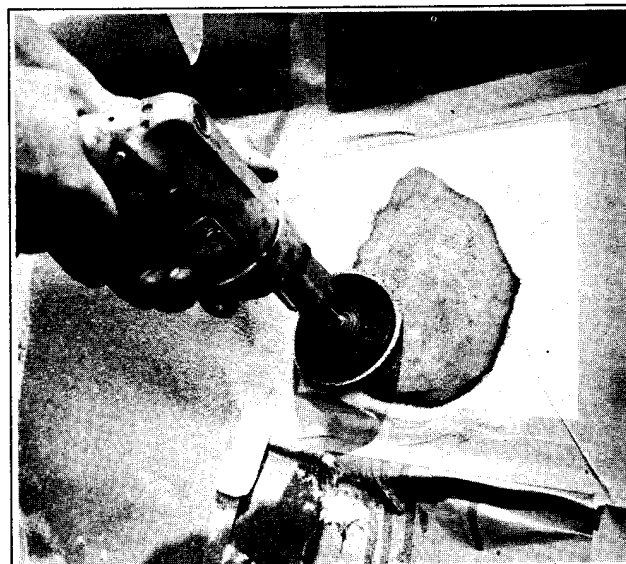

Figure 2-60. Bleeding Patch with Sander
10. Allow the patch to cure overnight; then sand with dry 80-grit paper on power sander. Smooth the patch and blend it with surrounding surface. If air pockets are present, puncture and fill with catalyzed resin. Let cure and re-sand. See Figure 2-60.